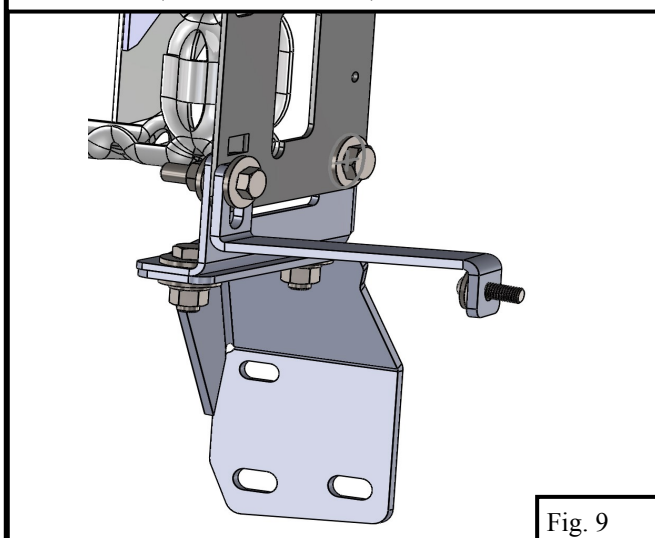
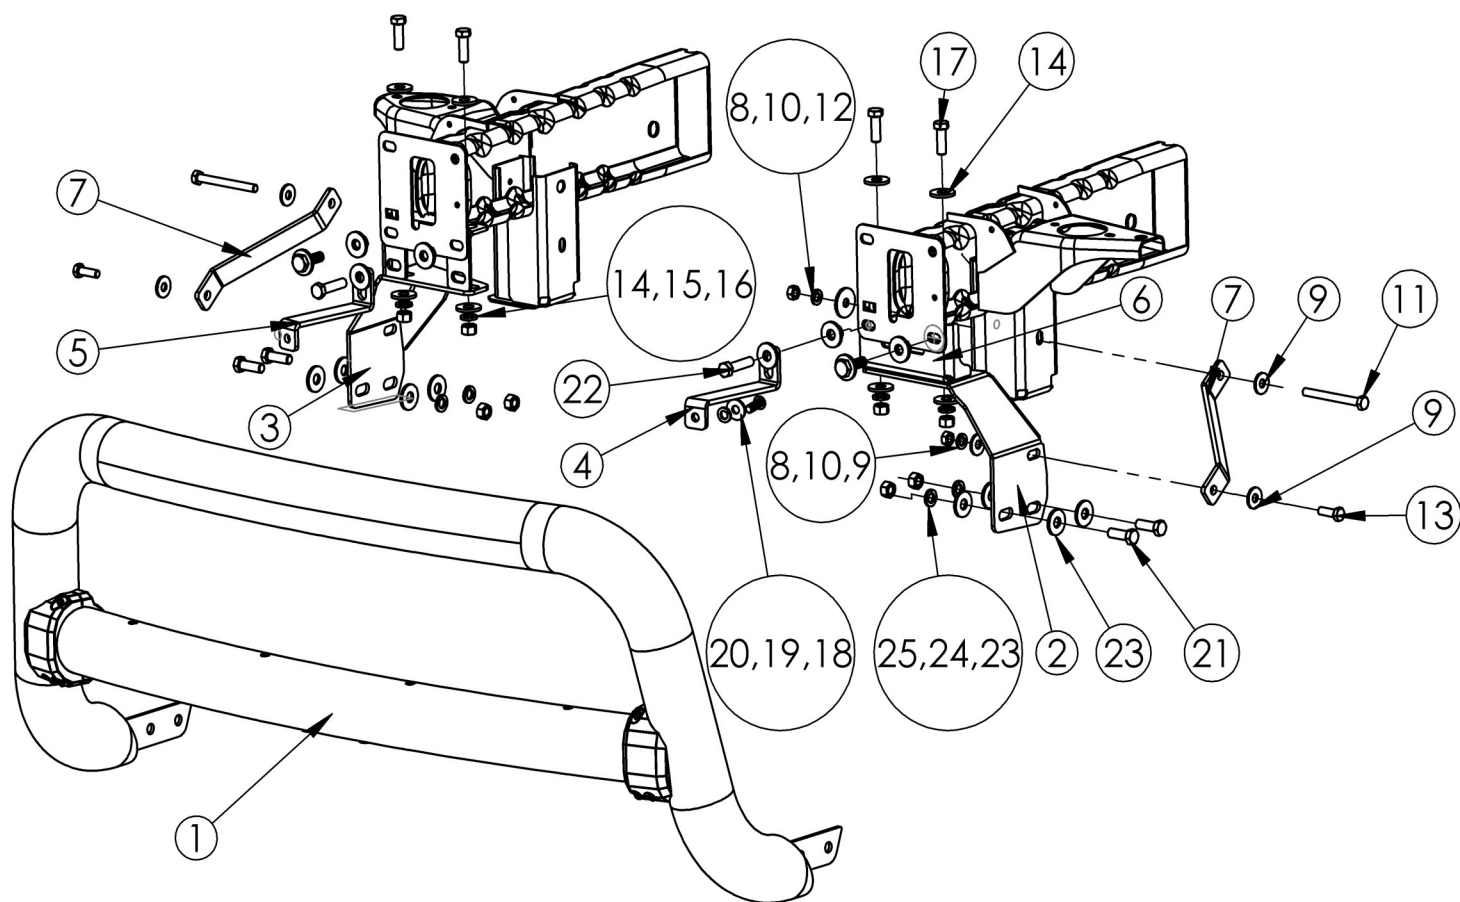

Fig. 9
Fig. 14
- A. **Vehicles w/o tow hooks:** Attach the lower mounting bracket (**Item #2**) to the previously installed upper frame bracket (**See Figure 9**) using (2) M12 hex head cap screws (**Item #17**), (4) M12 flat washers (**Item #14**), (2) M12 split lock washers (**Item #15**), and (2) M12 hex nuts (**Item #16**). See **Figure 14** for a picture showing the hardware used.
8. Loosely attach one end of the lower support strap to the lower mounting bracket using (1) M10 hex head cap screw (**Item #13**), (2) M10 flat washers (**Item #9**), (1) M10 split lock washer (**Item #10**), and (1) M10 hex nut (**Item #8**). The other end of the lower support strap will be mounted to the vehicle's frame in the location shown in **Figure 13** using (1) M10 hex head cap screw (**Item #11**), (1) M10 flat washer (**Item #9**), (1) M10 large flat washer (**Item #12**), (1) M10 split lock washer (**Item #10**), and (1) M10 hex nut (**Item #8**). Refer to **Figure 14** for a picture showing the mounting hardware.
10. With assistance, hold the bull bar up in position on the outside of the lower mounting brackets. Loosely install the bull bar to the brackets with (4) M12 hex head cap screws (**Item #21**), (8) M12 flat washers (**Item #23**), (4) M12 split lock washers (**Item #24**), and (4) M12 hex nuts (**Item #25**). (**FIG 14**)
11. Loosely install the other end of the support straps to the bull bar using (2) M10 hex head cap screws (**Item #18**), (2) M10 flat washers (**Item #19**), and (2) M10 split lock washers (**Item #20**). (**FIG 14**)